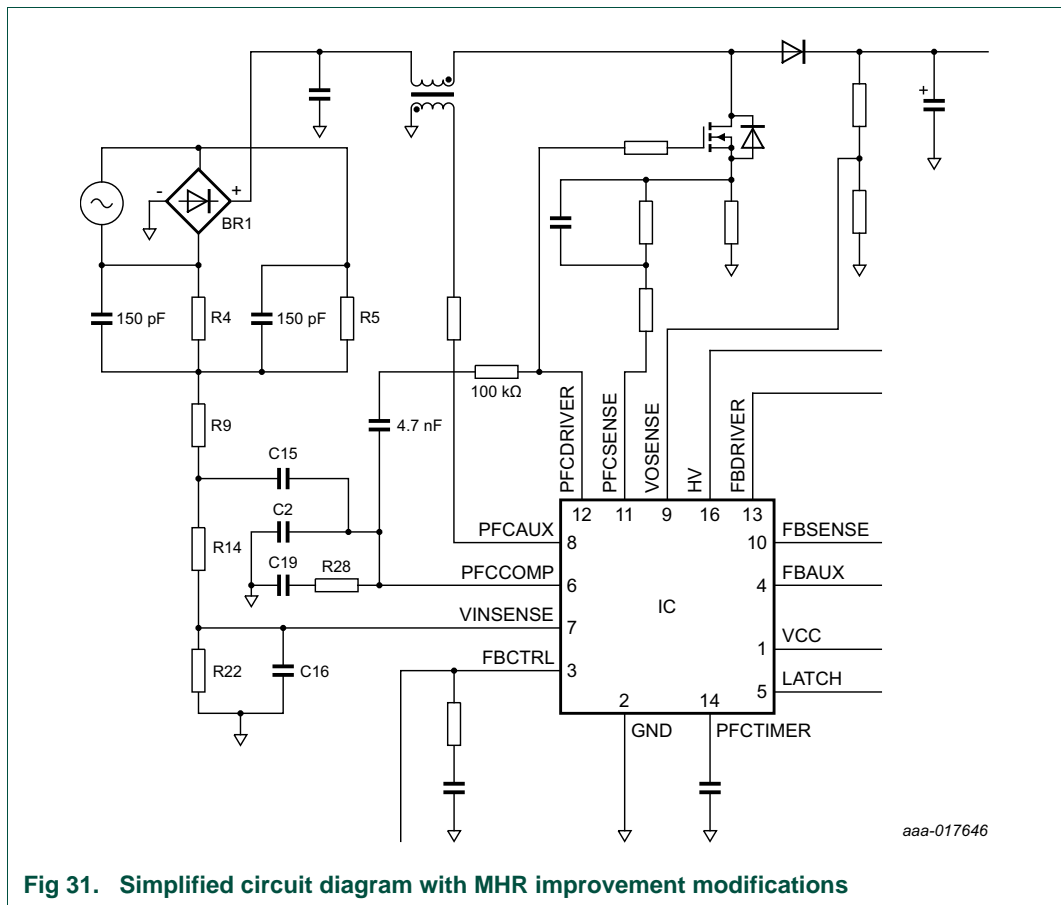

Fig 31. Simplified circuit diagram with MHR improvement modifications
The MHR can be improved over the full load range at the expense of the THD at full load. With the modifications shown in Figure 31, the THD at 230 V (AC) is < 15 % instead of < 10 %. The following modifications are required: